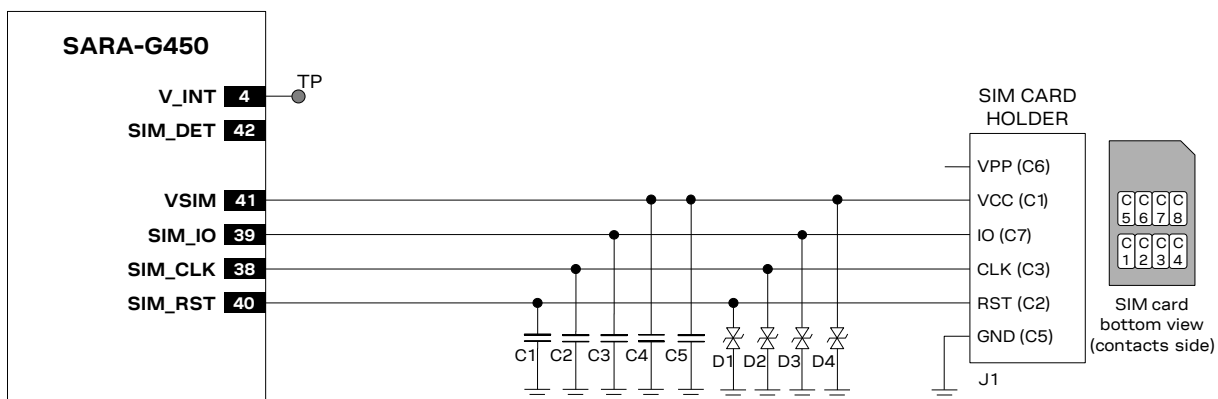
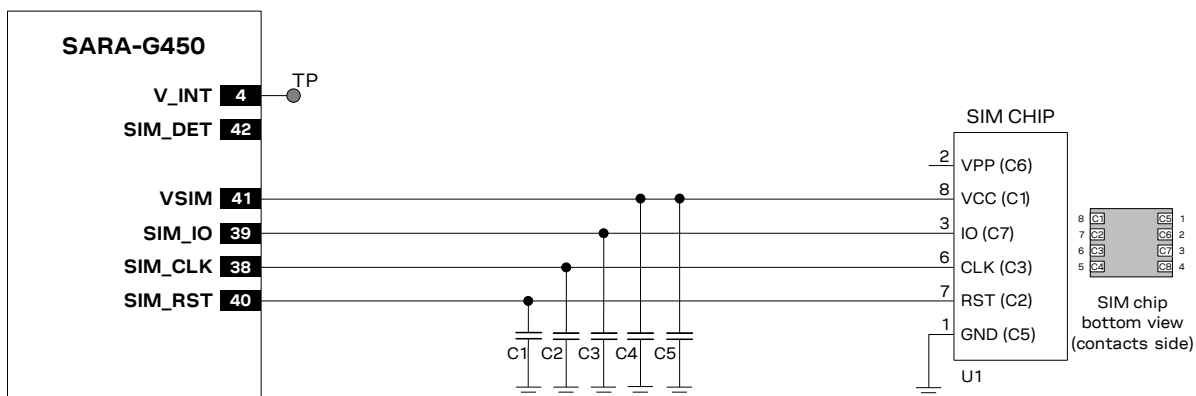
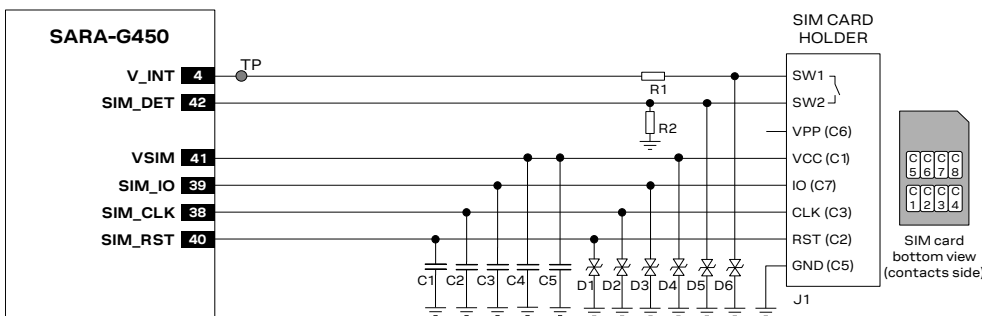
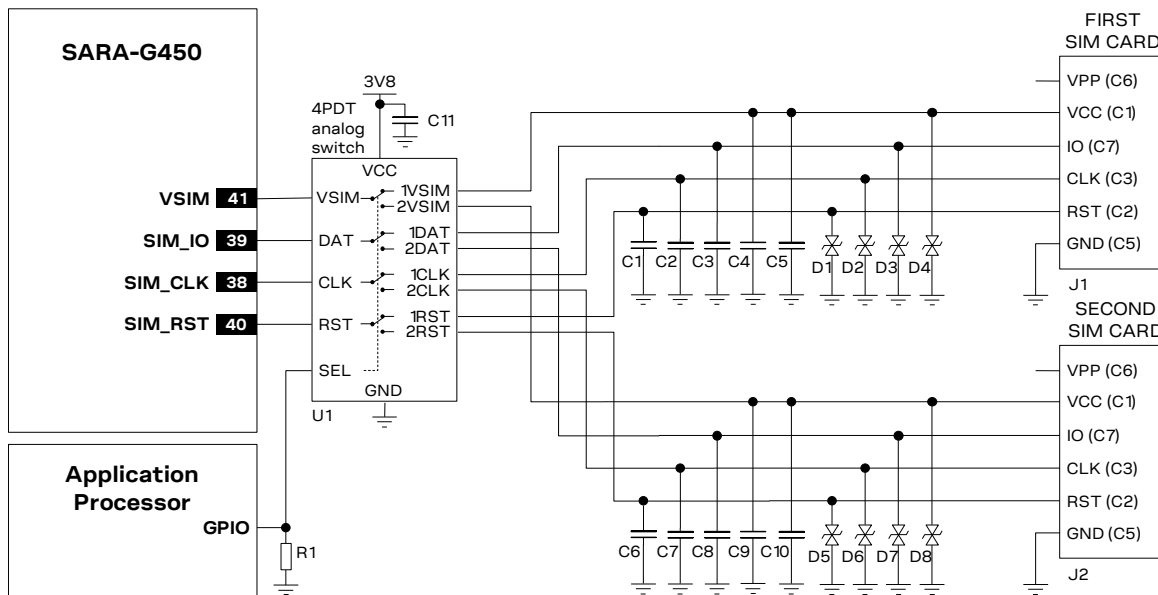

Figure 43: Application circuit for the connection to a single removable SIM card, with SIM detection not implemented
Figure 44: Application circuit for the connection to a single solderable SIM chip, with SIM detection not implemented
Figure 45: Application circuit for the connection to a single removable SIM card, with SIM detection implemented
Figure 46: Application circuit for the connection to two removable SIM cards, with SIM detection not implemented
An application circuit for the connection to a single removable SIM card placed in a SIM card holder is described in Figure 43, where the optional SIM detection feature is not implemented (see the circuit described in Figure 45 if the SIM detection feature is required).
An application circuit for the connection to a single solderable SIM chip (M2M UICC Form Factor) is described in Figure 44, where the optional SIM detection feature is not implemented (see the circuit described in Figure 45 if the SIM detection feature is required).
An application circuit for the connection to a single removable SIM card placed in a SIM card holder is described in Figure 45, where the optional SIM card detection feature is implemented.
- Connect one pin of the normally-open mechanical switch integrated in the SIM connector (as the SW2 pin in Figure 45) to the **SIM_DET** input pin, providing a weak pull-down resistor (e.g. 470 kΩ, as R2 in Figure 45).
- Connect the other pin of the normally-open mechanical switch integrated in the SIM connector (SW1 pin in Figure 45) to **V_INT** 1.8 V / 3 V supply output by means of a strong pull-up resistor (e.g. 1 kΩ, as R1 in Figure 45).
Two SIM card / chip can be connected to the modules' SIM interface as illustrated in the circuit of Figure 46.
SARA-G450 modules do not support the usage of two SIMs at the same time, but two SIMs can be populated on the application board providing an appropriate switch to connect only the first SIM or only the second SIM per time to the SIM interface of the SARA-G450 modules as described in the Figure 46.
In the application circuit example represented in Figure 46, the application processor will drive the SIM switch using its own GPIO to properly select the SIM that is used by the module.
The dual SIM connection circuit described in Figure 46 can be implemented for SIM chips as well, providing a suitable connection between the SIM switch and SIM chip as described in Figure 44.
If it is required to switch between more than two SIMs, a circuit similar to the one described in the Figure 46 can be implemented: for example, in the event of a four-SIM circuit, using an appropriate 4-pole 4-throw switch (or, alternatively, four 1-pole 4-throw switches) instead of the suggested 4-pole 2-throw switch.